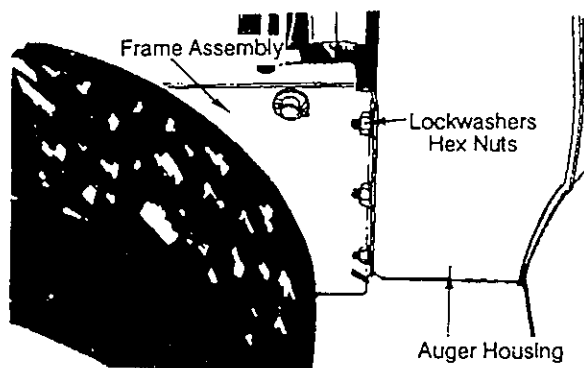

FIGURE 25
- Remove the six hex nuts, lockwashers and hex nuts which attach the auger housing assembly to the frame. See figure 25.